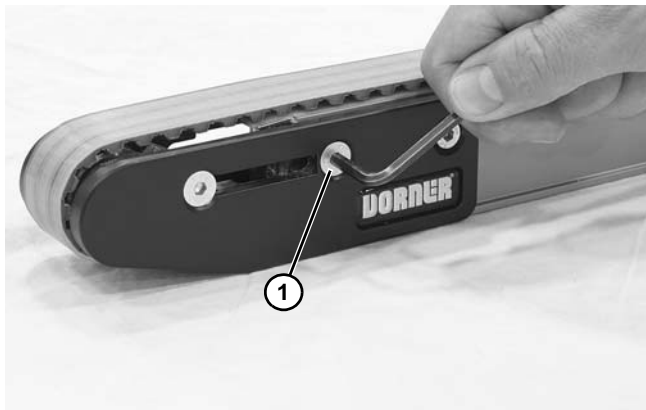

Figure 48
1. Remove screw (Figure 48, item 1) on both sides of the conveyor.